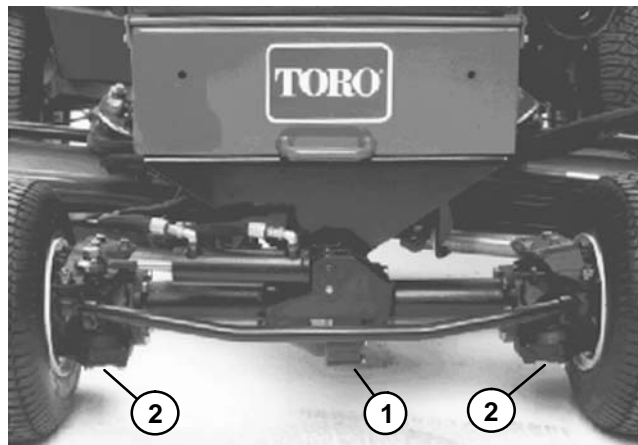

Figure 4
3. Remove plugs allowing oil to drain into drain pans (Fig. 4).